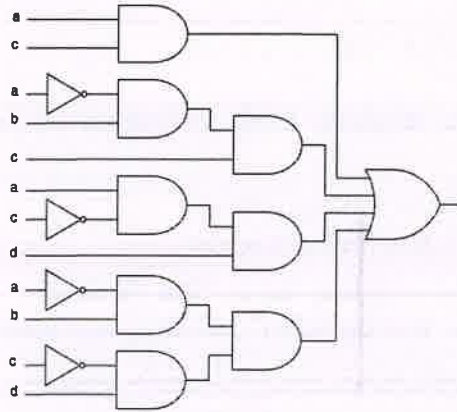

Fig. 1a
15. a) Consider the circuits in Fig. 1a and Fig. 1b 13    K3    CO5
Identify the functional equivalence of the logic circuit in Fig.1a with that of Fig. 1b using ROBDDs. Prove your answer.